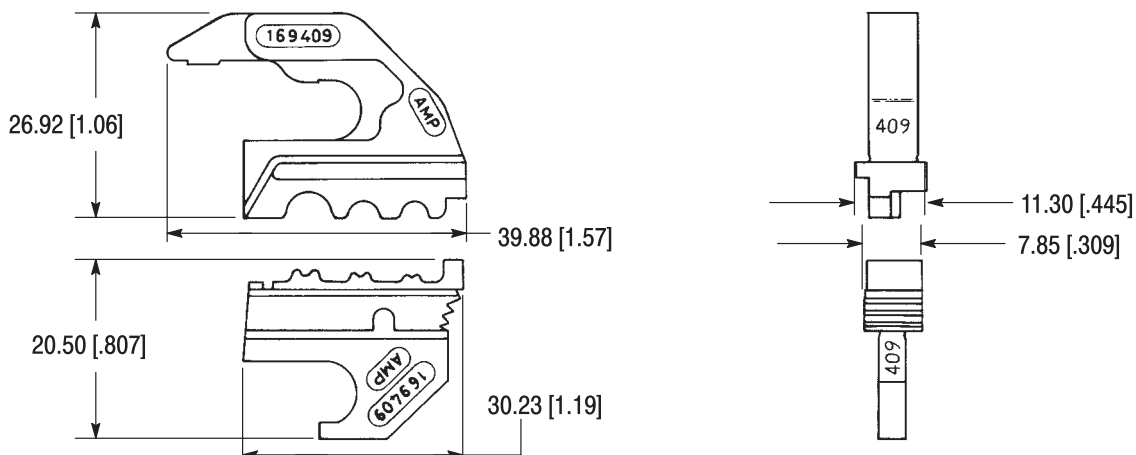

Figure 5
**5. REPLACEMENT AND REPAIR** (Figure 5)